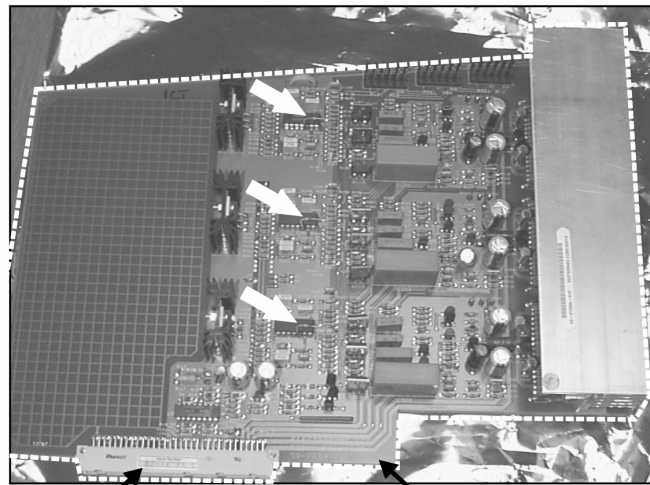

Figure 2
5. On the component side of the board, locate U101. Solder one leg of a 10k resistor (Electrohome part no. 80-110025-11P) to U101 pin 12, solder the other leg to TP104. The body of the resistor should be positioned on top of U101. See Figure 2.
6. On the component side of the board, locate U201. Solder one leg of a 10k resistor (Electrohome part no. 80-110025-11P) to U201 pin 12, solder the other leg to TP204. The body of the resistor should be positioned on top of U201. See Figure 2.
7. On the component side of the board, locate U301. Solder one leg of a 10k resistor (Electrohome part no. 80-110025-11P) to U301 pin 12, solder the other leg to TP304. The body of the resistor should be positioned on top of U301. See Figure 2.